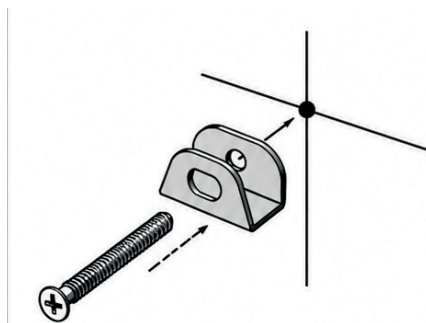

Fig6
3. Push the two plugs (D) into the two hooks (c) with the two screws (D). (Figure 6 & 7).